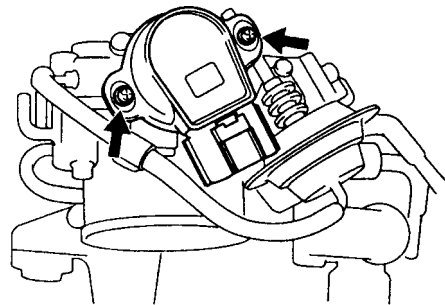

Figure 16-28 Throttle position sensor.
The throttle position (TP) sensor (Figure 16-28) provides the computer with information about where the driver's foot has positioned the accelerator pedal. On the Toyota system, the TP sensor is adjustable using a feeler gauge between the throttle stop screw and stop lever and an ohmmeter on the terminals, as shown in the shop manual. A defective TP sensor can lead to the wrong idle speed and poor driveability at other speeds.